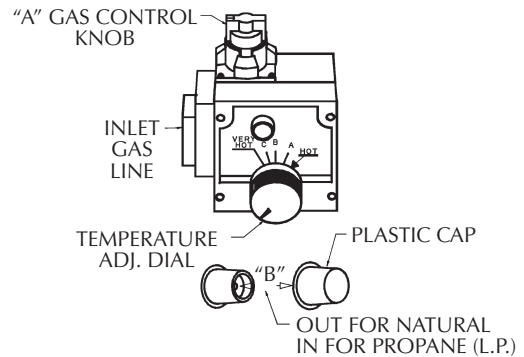
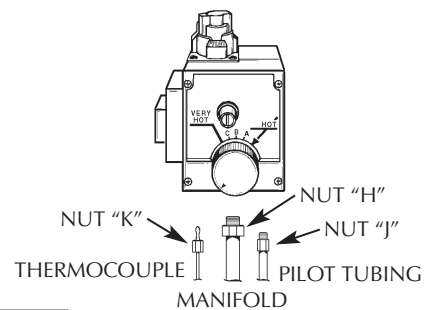
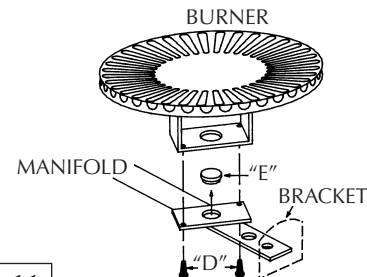
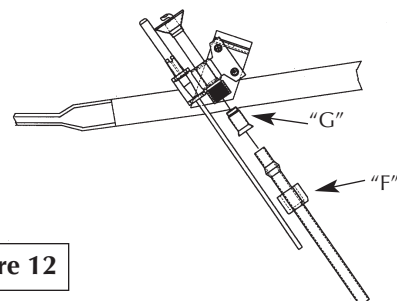

Figure 9
Figure 10a
Figure 11
Figure 12
Step 1. Turn gas control knob "A" to "PILOT". Depress and turn "OFF". (See Figure 9, page 20).
Step 3. Remove burner assembly from water heater control by first removing 6 screws holding inner door to heater, then loosening $\frac{3}{4}$ " nut "H" holding burner assembly to control. (See Figures 10a and 10b, page 20). Loosen pilot tube nut "J" and thermocouple nut "K" at control.
Step 4. Remove screws "D" disengaging manifold from burner. (See Figure 11, page 20)
Step 5. Remove orifice "E" (See Figure 11, page 20) using $\frac{3}{8}$ " wrench. Install orifice marked "L.P." found in the bag into manifold. Tighten securely. Secure burner to manifold with screws "D".
Step 6. Loosen pilot tube nut "F" (See Figure 12, page 20). Remove orifice "G" and replace with red colored orifice found in bag. Reinstall nut "F" and tighten securely.
Step 7. Make sure all connections are tightened securely, and reinstall burner assembly into water heater. Position end of the manifold inside bracket as shown in Figure 11 on page 20. Reinstall manifold into control and tighten $\frac{3}{4}$ inch nut ("H") securely. Recheck to see that end of manifold is still inside bracket as shown in Figure 11 on page 20. Reinstall pilot tubing and thermocouple into control. (See Figure 10a, page 20). Reinstall inner door using the 6 screws removed in step 3.
Step 8. Place screwdriver in slot "B". (See Figure 9, page 20). Depress and turn counter-clockwise (↺) to stop. Control screw must be in "IN" position for propane (L.P.) gas and in "OUT" position for natural gas. STOP! Read label "For Your Safety" located on your water heater.
Step 11. Wait five (5) minutes to clear out any gas. If you then smell gas, STOP! Follow "B" in the safety information on "For Your Safety" label. If you don't smell gas, go to the next step.
Step 12. Open pilot door. The pilot is located in front of the burner. (See Figure 12, page 20)
Step 14. Push in control knob all the way and hold down. Immediately light the pilot through pilot light hole with a match held by a match holder wire. Continue to hold control knob in for about one (1) minute after the pilot is lit. Release knob and it will pop back up. Pilot should remain lit. If it goes out, repeat steps 9 through 12.
Step 15. Check for gas leaks with only pilot flame burning using a soapy water solution, not a match or open flame. Check for gas leaks at fittings "F" and "G" (See Figure 12, page 20) and at fitting "J" (See Figure 10a, page 20).
Step 16. Make sure temperature adjustment dial is turned clockwise (↻) in its lowest position (See Figure 9, page 20).
Step 19. With a soapy water solution, not a match or open flame, check for gas leaks at gas connection "H". (See Figure 10a, page 20). If gas leak occurs, turn off immediately by shutting off gas cock at inlet to